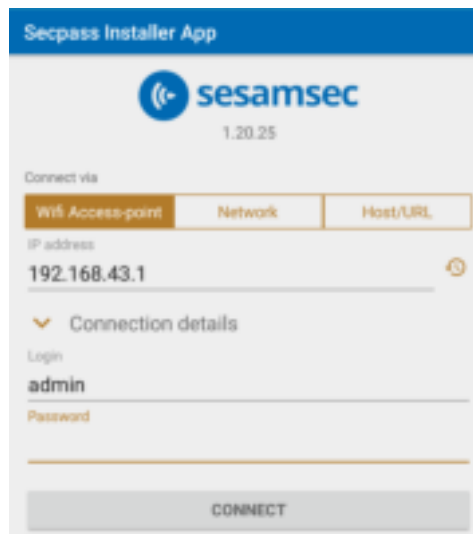

Fig. 33
4. The Secpass Installer app opens on your mobile device (Fig. 33).